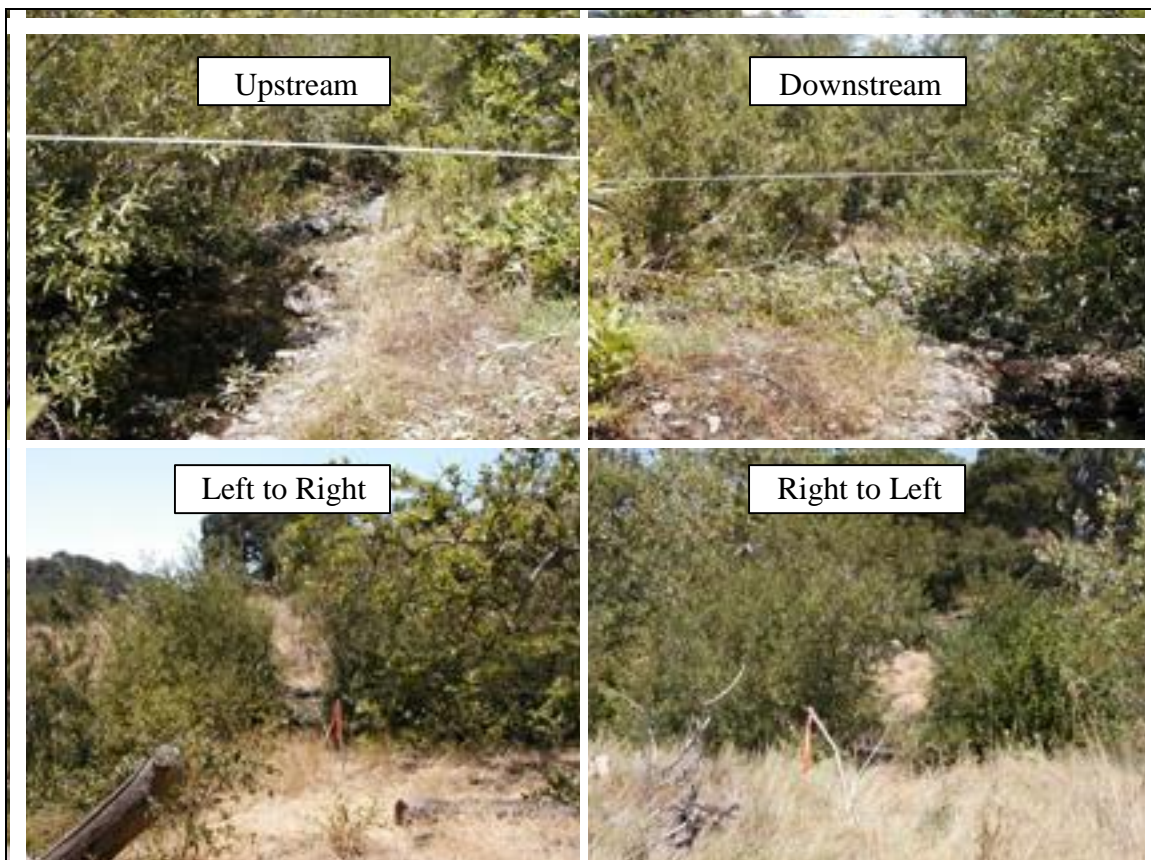

Figure 15 – Example photos
- Before removing the tape that stretches between the rebar, replace the PVC markers then take four digital photos to document site: 1) standing in the channel facing upstream 2) standing in the channel facing downstream 3) standing on the left bank facing the right bank, and 4) standing on the right bank facing the left bank (Figure 15).